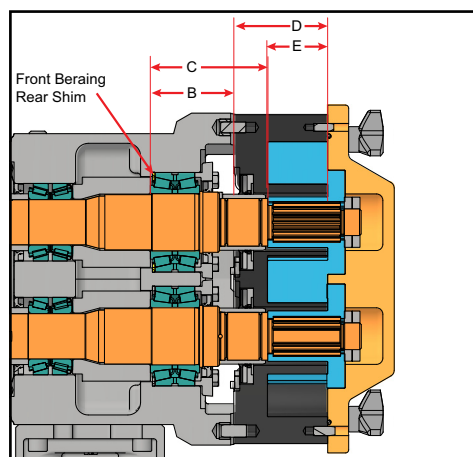

Figure 84 - Measure B, C, D and E
- If it is necessary to calculate the required shims for replacement shafts, bearings or both, refer to Figure 84 and Figure 84; carry measurements and calculations to three decimal places (i.e. 0.059).
- Measure "B" in the gear case and "C" on the shaft (Figure 84).
- Measure "D" and "E" on the body (Figure 84).
(Callouts for both Figure 84 and Figure 84)